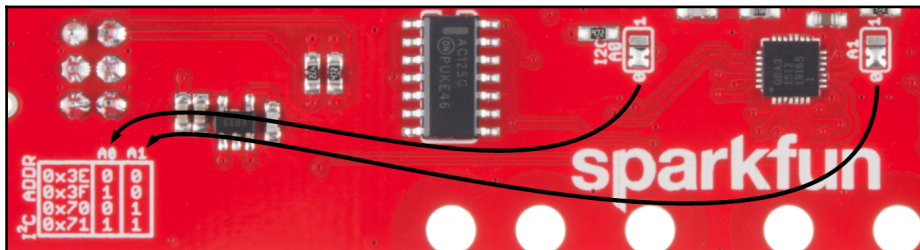

Figure 5.10: Selecting the I2C address. Image courtesy of SparkFun Electronics (<https://www.sparkfun.com>)
3. Then, you create an instance of `SensorBar` and connect it to the I2C bus with the address `0x3E`. If you need to change the address of the array, move the solder jumper to set A0 and A1. The silkscreen table gives a reference. The default address is `0x3E` (Figure 5.10). For example, if you want to use address `0x3F`, move A0 to the 1 position and leave A1 at 0: